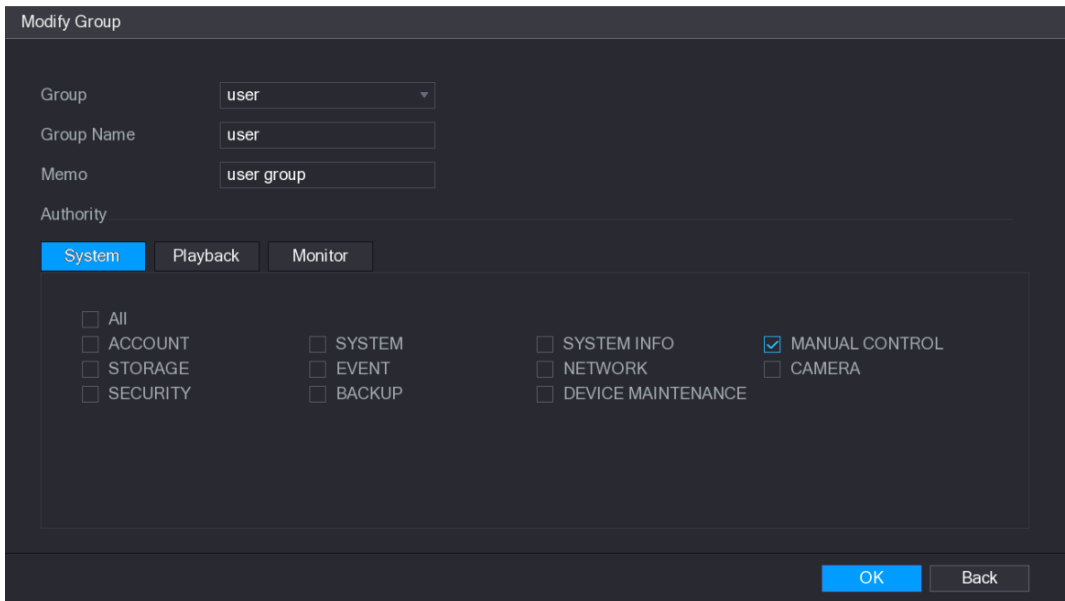

Figure 5-231
Step 3 The **Modify Group** interface is displayed. See Figure 5-231.